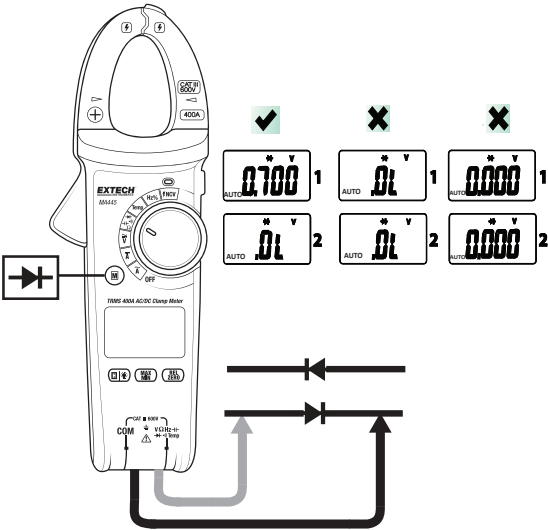

Fig. 10 – Diode Testing
- 3. Insert the black test lead banana plug into the negative (COM) jack and the red test lead banana plug into the positive (V) jack. See Fig. 10.